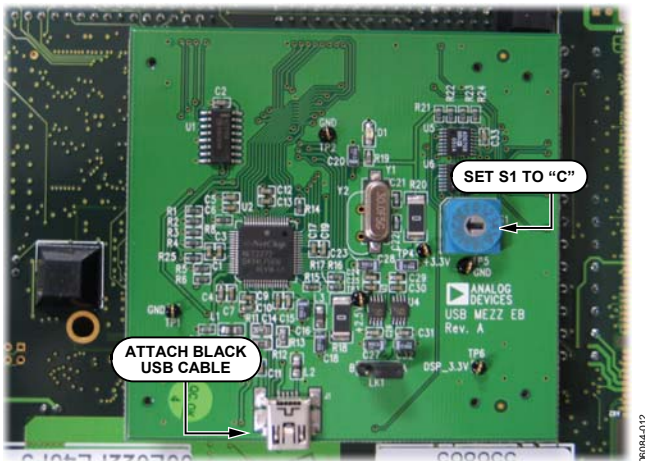

Figure 12. USB Mezzanine Board (Attached Underneath Blackfin EZ-KIT Lit)
3. Using the black mini USB cable included in the AD7760/AD7762/AD7763 evaluation kit, connect the Blackfin board (via the USB mezzanine board underneath the Blackfin board shown in Figure 12) to one of the PC's USB sockets.
4. Also ensure that the hexadecimal switch (S1) is set to C and that Link L1 is set to A on the USB mezzanine board (see Figure 12).